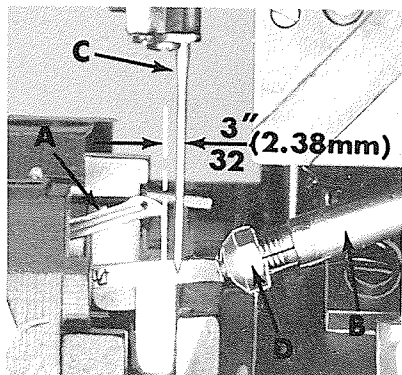

Fig. 8
Insert the lower looper (A, Fig. 8) into bar (B). With lower looper at the left end of its stroke, set looper point $\frac{3}{32}$ inch (2.38 mm) from centerline of right needle (C). Set looper point into needle scarf to touch but not deflect, approximately .001 inch (.025 mm) clearance. Adjustment can be made by rocking the looper forward or backward around its shank. Recheck specified lower looper gauge setting and tighten nut (D, Fig. 8). Check for .025 inch (.635 mm) minimum looper clearance under throat plate stitch tongue (see sketch). Add .009 inch (.229 mm) shims No. 39880 J under throat plate support bracket if needed, but not to exceed two shims. For proper setting, looper point should be at or slightly below center